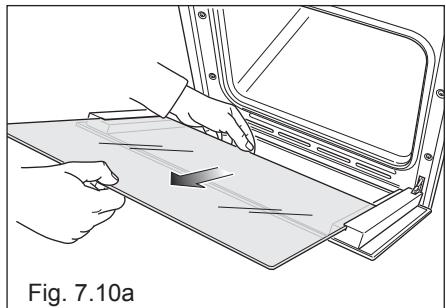

Fig. 7.10a
- Gently pull out the inner pane of glass (fig. 7.10a)